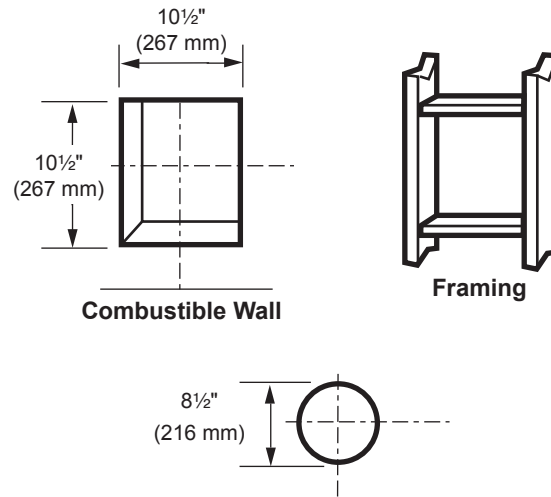

*Figure 25 -
Combustible Exterior Walls: Cut a 10½"H x 10½" W (267 x 267 mm) square hole through the exterior wall frame. *Figure 25*
2. The center of the hole should align with the center line of the horizontal rigid vent pipe end. Allow 1/4" minimum rise per foot. *Figure 25*